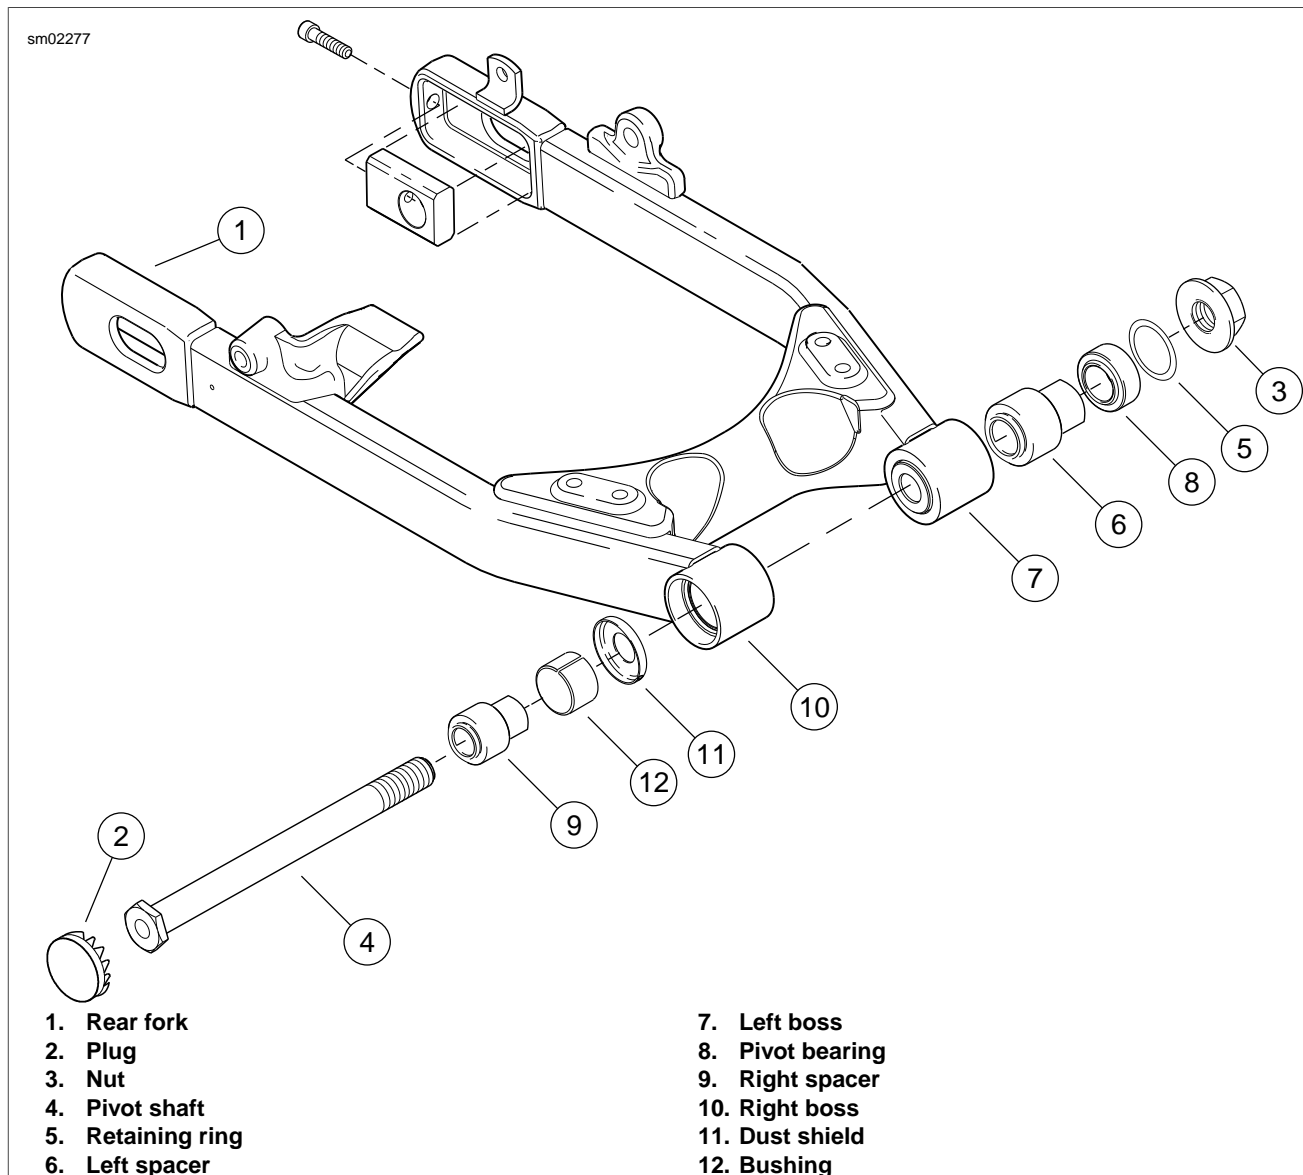

Figure 2-98. Rear Fork
7. See Figure 2-98. Remove plug (2).
8. Remove nut (3).
9. Remove pivot shaft with attached nut (4). Support rear fork (1) and pull assembly from frame.
1. See Figure 2-98. Remove retaining ring (5), push or with a brass drift tap spacer (6) inboard to remove it from left fork boss (7).
2. From inboard side press or drive pivot bearing (8) from left fork boss.
3. Push or with a brass drift tap spacer (9) outboard to remove it from right fork boss (10).
4. Press pivot bushing (12) and dust shield (11) from fork assembly.
See Figure 2-98. The pivot bearing (8) is lifetime lubricated and will require no further attention other than cleaning. Clean the bearing bore with a clean shop towel, removing any dirt or grit adhering to the bearing surface.
1. See Figure 2-98. If necessary, install **new** pivot bearing (8) and press **new** bearing from outboard side until outer race is seated against shoulder in left fork boss (7).
2. Install retaining ring (5) and spacer (6). The spacer must be inserted from the inboard side.
3. If bushing (12) must be replaced, press the bushing and dust shield (11) into the fork bore so dust shield is flush to 0.060 in. (1.50 mm) above fork bore.
4. Coat right side pivot spacer (9) with WHEEL BEARING GREASE (Part No. 99855-89). Insert pivot spacer into pivot bushing (12) with chamfered end facing outward.
3. See Figure 2-98. Hold fork assembly in position and install the pivot shaft with attached nut (4) from right side. Thread nut (3) on threads of pivot shaft. Tighten nut to 71-75 ft-lbs (96.3-101.7 Nm).